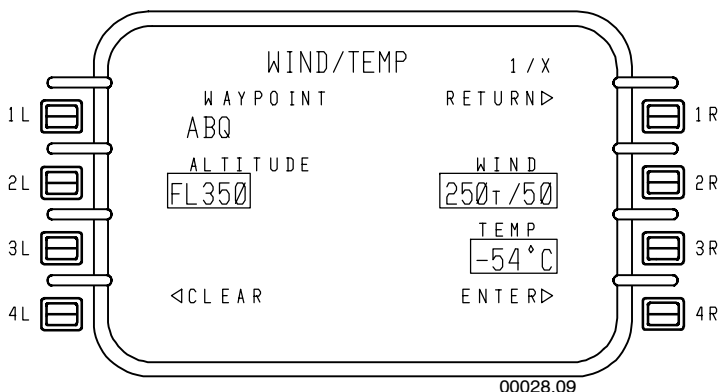

Figure 5-27
- **4L** – Upon entry of any data on the WIND/TEMP page, the FMS displays the CLEAR prompt at 4L. This is shown in Figure 5-27. Selection of this prompt clears all entries on the page and returns the default values displayed when the page was first accessed.
- **4R** – Upon entry of a valid wind/temperature, the FMS displays the ENTER prompt at 4R. This is also shown in Figure 5-27. A valid wind/temperature entry requires entry of an altitude, and entry of wind and/or temperature. When an entry is valid, the data is displayed in inverse video and the ENTER prompt appears.